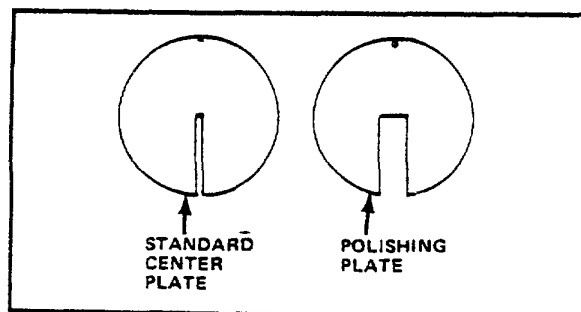

FIG. 44. STANDARD TABLE CENTER PLATE AND POLISHING PLATE
- (3) Install upper file guide and lock it firmly to post with knurled thumb screws. install special table center filing disk. See Figs. 44 and 45. Insert one band end through table center disk. File cutting edges should face downward.